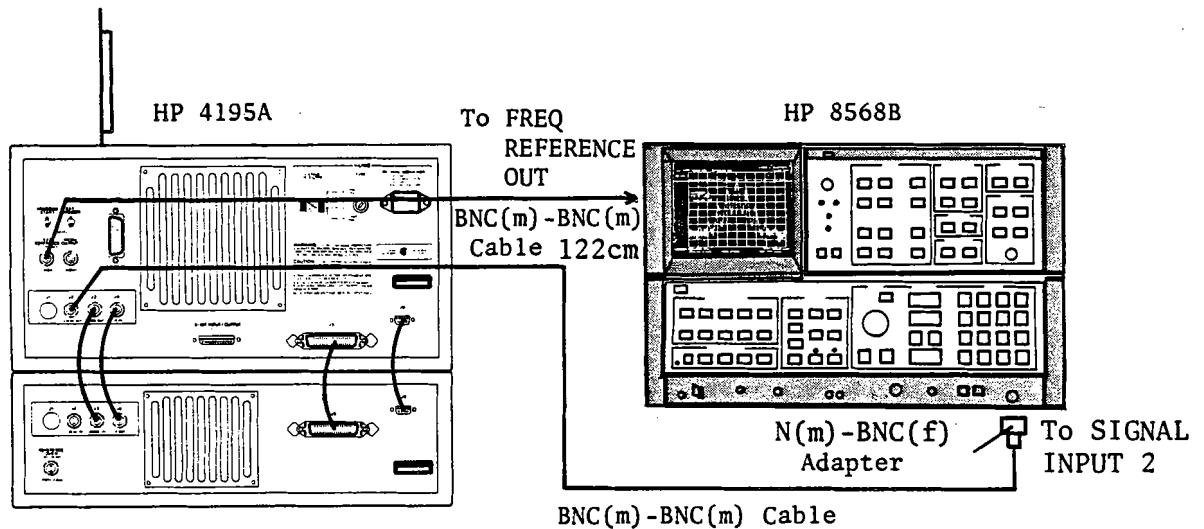

Figure 3-35. 100 kHz Spurious Rejection Adjustment Setup
2. Connect the equipment as shown in Figure 3-35.